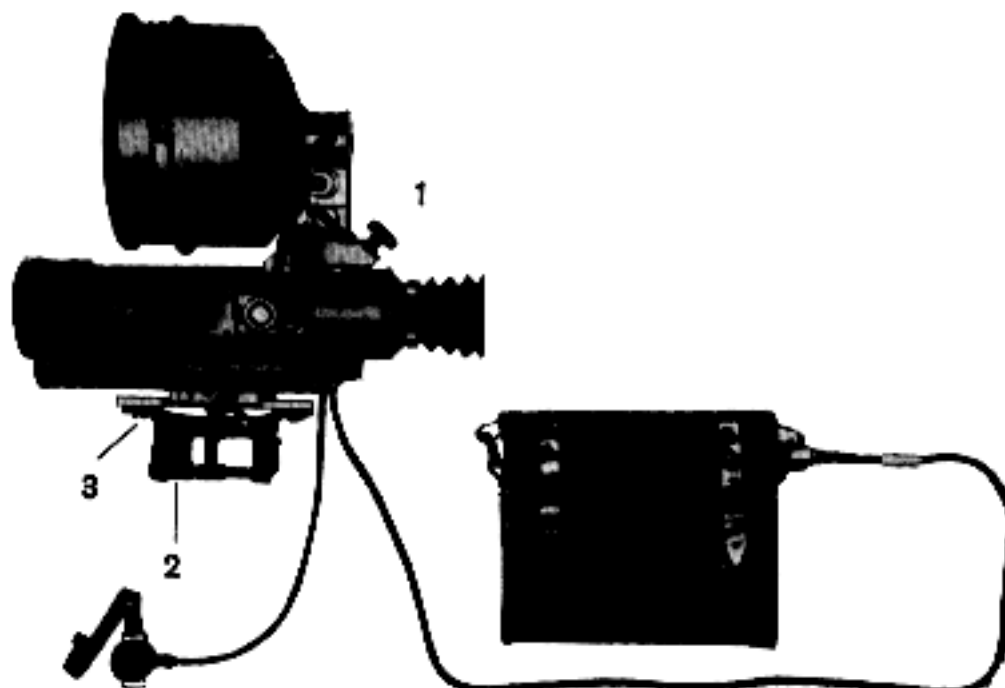

Fig. 29: Infra-red night sighting device with mount
(2) Infra-red night sighting device with mount (Fig. 29)